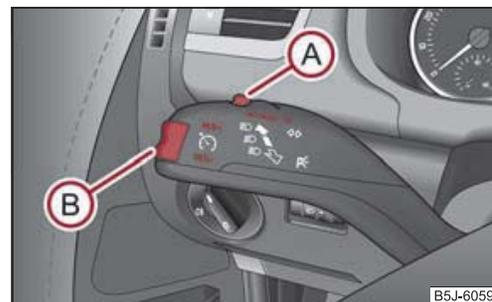

Fig. 99 Operating lever: Rocker button and switch of the cruise control system
- Press the switch **(A)** ⇒ fig. 99 into the position **ON**.
- You can **increase** the stored speed without depressing the accelerator, by pressing the rocker button (B) ⇒ page 91, fig. 99 into the **RES+** position.
The **Resumption** of the stored speed is achieved by releasing the brake or clutch pedal, on vehicles fitted with automatic gearbox only after releasing the brake pedal and after shortly pressing the rocker button (B) ⇒ page 91, fig. 99 into the position **RES+**.
- Press the switch (A) ⇒ page 91, fig. 99 to the right into position **OFF**. ■